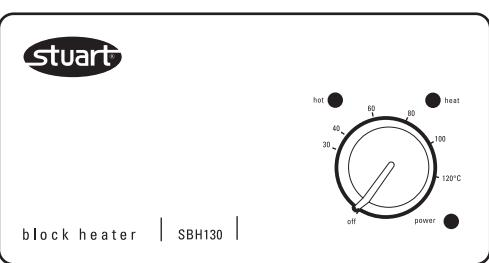

Figure 4 - analogue controls
2. The "power" light will illuminate - see figure 4.
3. The desired temperature may be set using the control knob labeled "heat" on the right hand side of the control panel – see figure 4. If turned to the position labeled "off" the heater will be switched off. Otherwise the scale around the knob will give guidance as to the set temperature.
4. The instrument will now begin to heat the aluminium blocks to this temperature and the light labeled "heat" on the control panel will illuminate – see figure 4.
5. If the temperature of the blocks exceeds 50°C the red light labeled "hot" will begin to flash to warn that the blocks are too hot to touch – see figure 4. This will continue even if the heater is turned off using the knob on the control panel so long as the instrument remains connected to the electricity supply and turned on with the switch at the rear.